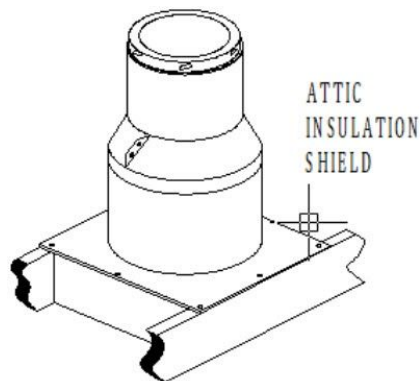

Fig. 9
8. **Install Attic Insulation Shield:** Install the Attic Insulation Shield where the chimney passes into an attic. Its purpose is to prevent debris and insulation from getting too close to the chimney (Fig 9). An installed Attic Insulation Shield is 15 inches high. In
- e. Secure the Attic Insulation Shield to the top of the framed opening using at least (3) 8-penny nails or (3) #8, 1-½" wood screws per side (Fig 9).